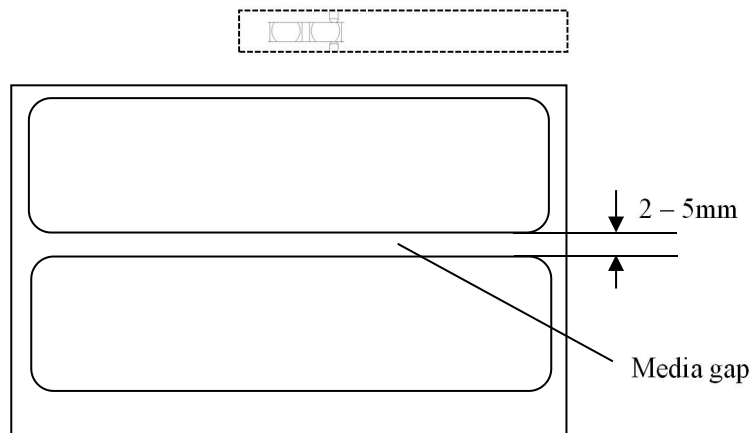

Figure 6-3
3. Refer to Figure 6-3, 6-4 and 6-5, make sure the location of the Media Sensor.